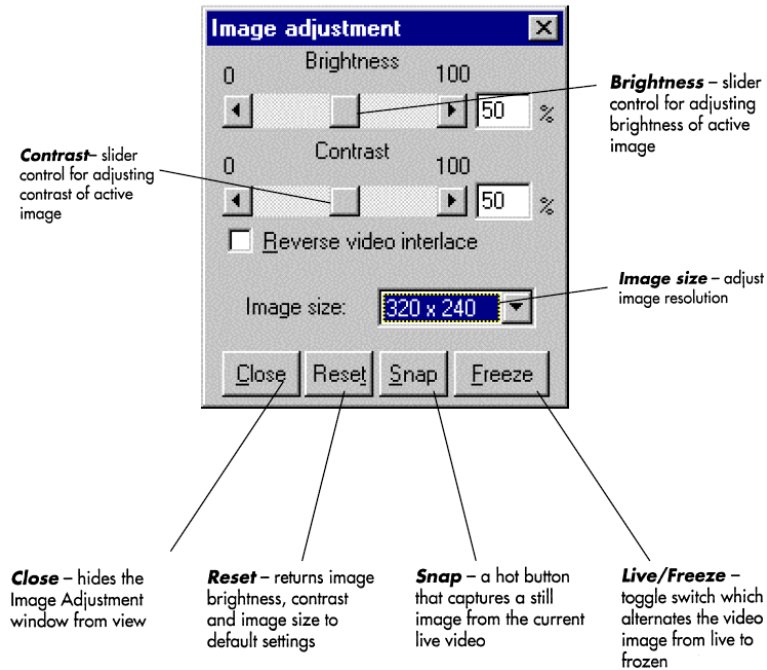

Figure 5: Brightness and contrast adjustment.
- Adjust the contrast of the live video if necessary, as shown in Figure 5.